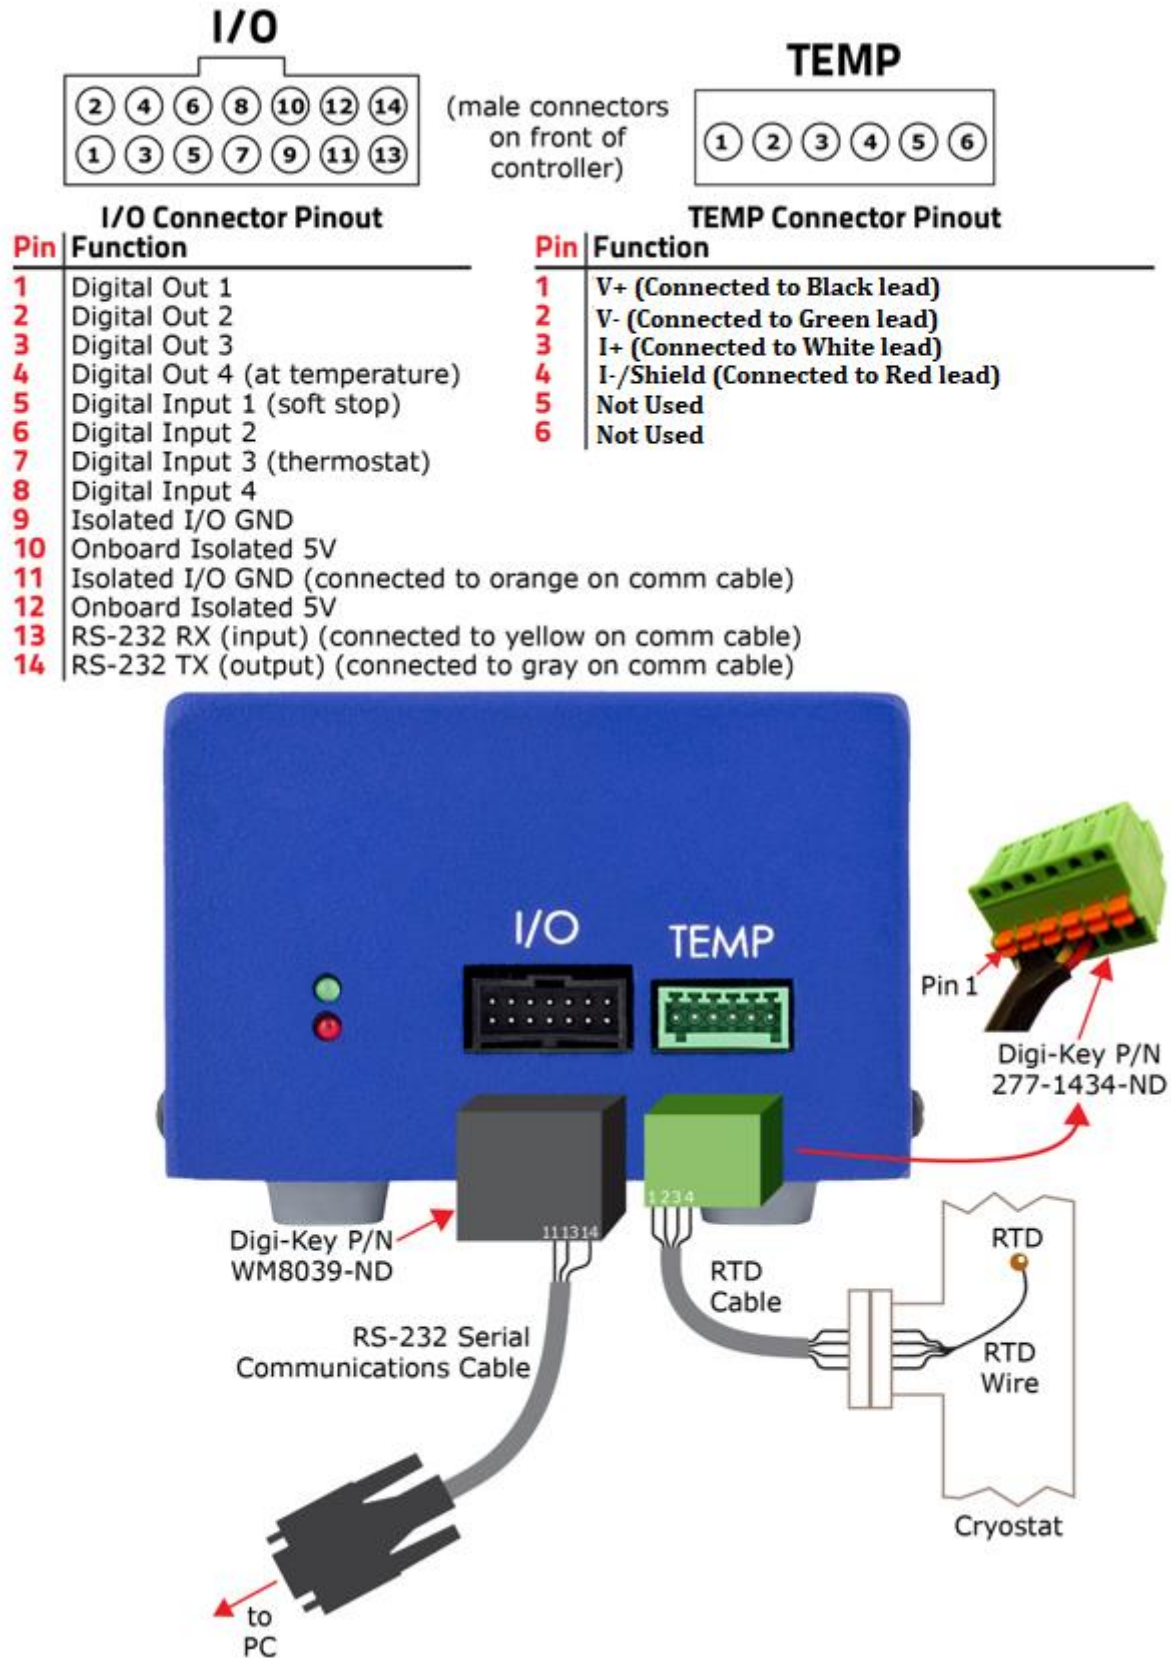
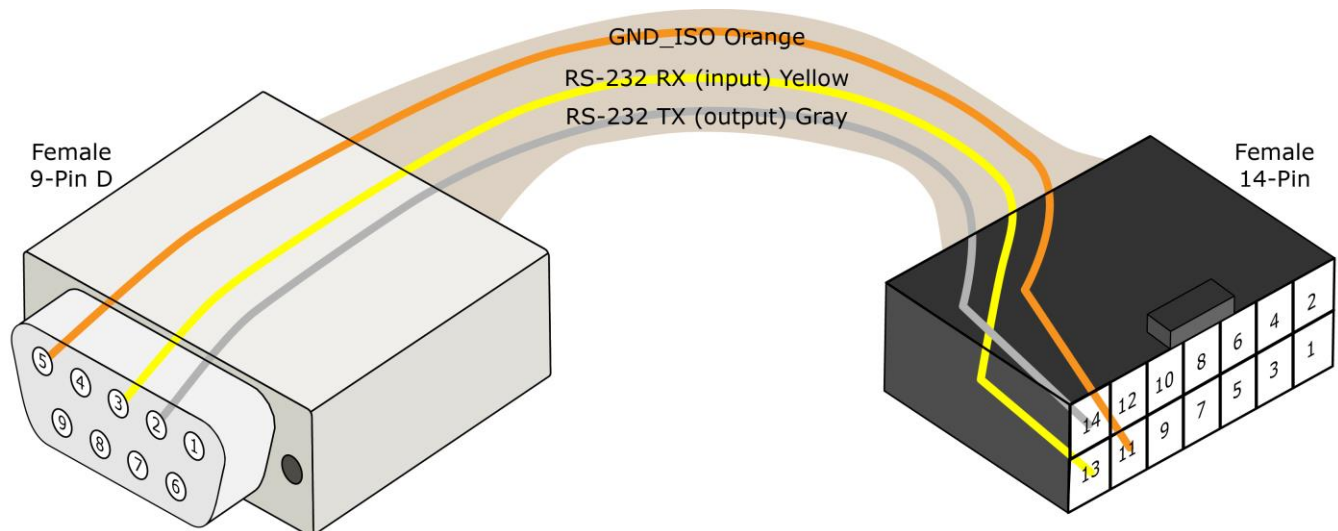

Figure 3-9. Pinout of the Controller's Connectors
Figure 3-10. RS-232 Serial Communications Cable Wiring Details
To access some of the advanced functions of the generation II controller, you have to add extra wires to the RS-232 serial communications cable's 14-pin I/O connector. Some of these functions include the following. See figure 3-9 for a complete pinout of the controller's I/O connector.
The RS-232 serial communications cable connects between the controller's I/O connector (figure 3-9) and the computer's RS-232 connector (or USB connector through an optional adapter). See figure 3-10 for details of the wiring between the cable's connectors. The interface uses a baud rate of 4,800 bps, 8 data bits, 1 stop bit, no parity, and no flow control.
- Install an optional USB-to-serial-port adapter (item 1 in table 3-4) into a USB port on your computer. The installation will allow you to assign a COM port for the adapter. Once the adapter is installed, connect the female 9-pin-D molded connector at the end of the RS-232 serial communications cable to the adapter.
2. Connect the female 14-pin connector at the other end of the RS-232 serial communications cable to the male 14-pin I/O connector on the front of the generation II controller (figure 3-9).
1. Connect the green female 6-pin connector on the end of the RTD cable into the green male 6-pin connector on the front of the controller (figure 3-9).